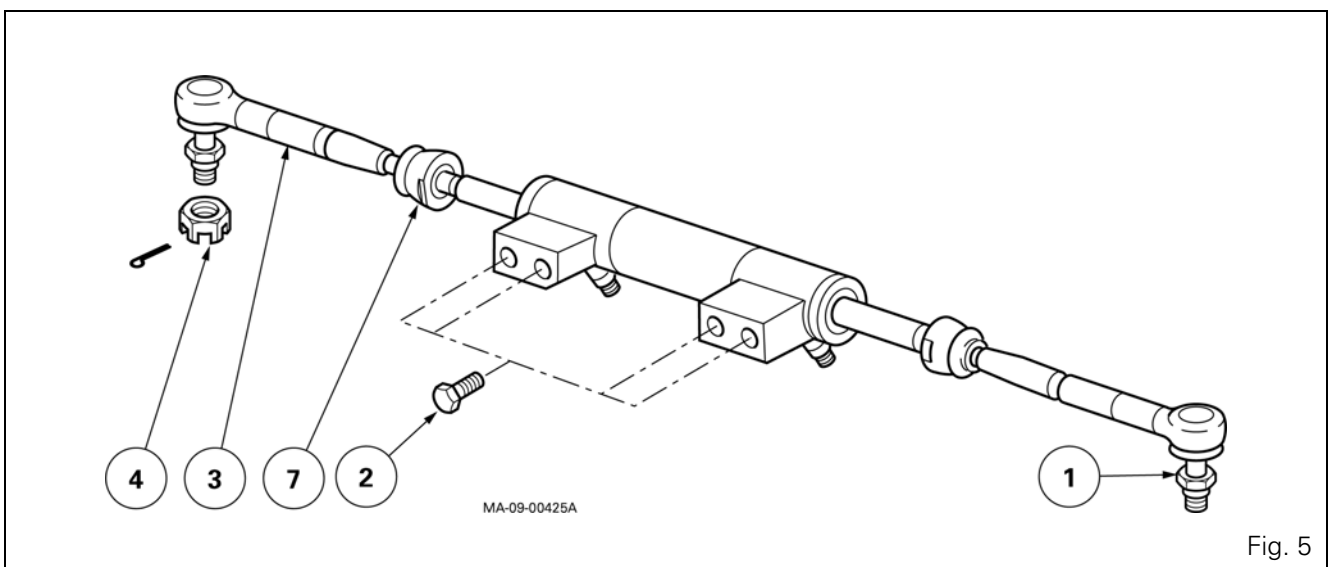

Fig. 5
52. Release and remove the ball joints (7) (Fig. 5).
53. Take off the lock rings (5) using a suitable locally made tool, while simultaneously turning the guide rings (3).
54. Take out the piston rod (6) from cylinder (4).
- the rod/piston (6);
- the guide rings (3).
62. Tighten and lock the ball joints (7) (Fig. 5) to a torque of 120 - 150 Nm, the threads previously smeared with Loctite 270 or equivalent.